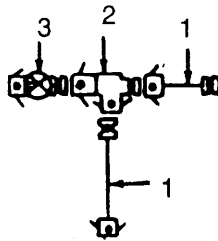

Figure 4-10. Tee Assembly, Removal/Installation.
##### a. Removal. (Refer to Figure 4-10.)
- (1) Refer to Figure 4-10 and position tee assembly (2) in place on butterfly valve (3) and secure with camlock levers.
- (2) Install two suction hose assemblies (1) and secure with camlock levers.